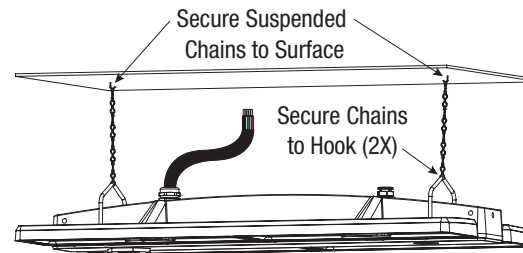

Figure 3
3. Following the wiring diagram, wire the luminaire (**Figure 3**).